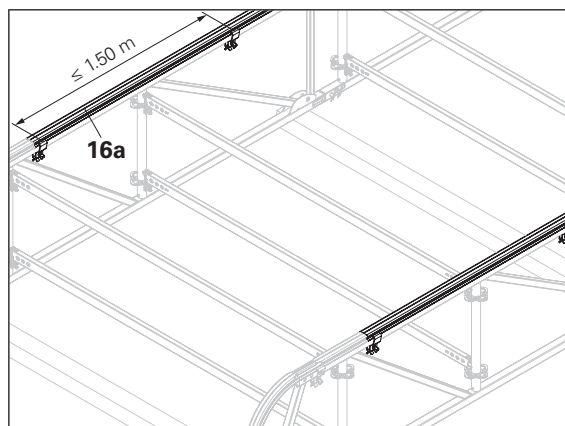

Fig. A2.02
4. Next, position other keder tracks (**16a / 16b / 16c**) on the eave rail and fix them in place at the joint with a keder connector (**17**) at spacings of ≤ 1.5 m. (Fig. A2.02 + A2.02a)